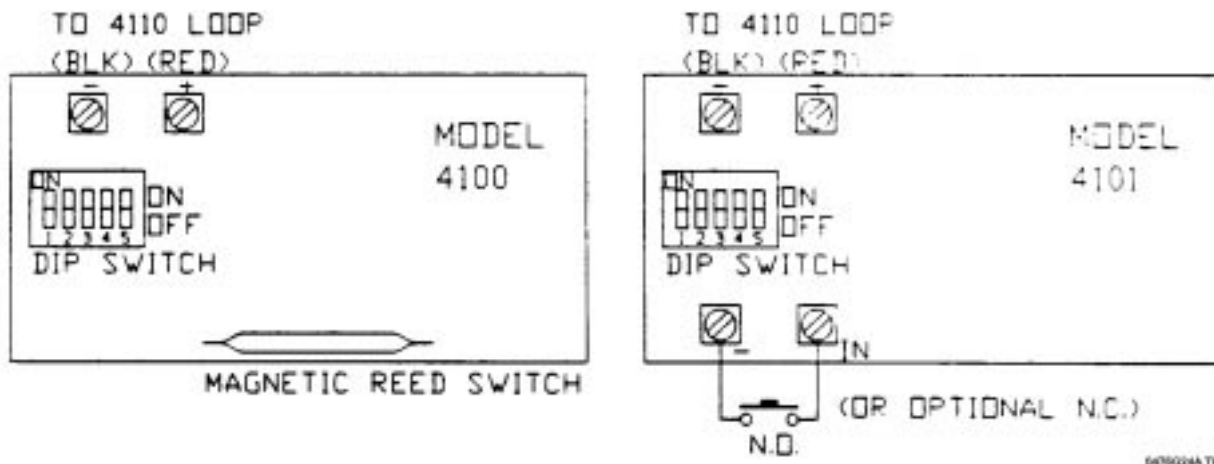

Figure 12.1.1b: Wiring the Models 4100 and 4101 SmartSensors
Figure 12.1.1b shows the Models 4100 and 4101 SmartSensors.
**Note:** If you are using both serial loops on the Model 4110, *DO NOT* run both loops with the same conductor (i.e., do not use a 4-conductor cable to run both loops). Separate conductors are required to eliminate the possibility of “cross talk” between the two (2) loops.
You will notice that there are five (5) DIP switches on the SmartSensors (see Figure 12.1.1b). These switches are used to select the sensor ID #. It is important that no two (2) sensors have the same ID # in the same loop.